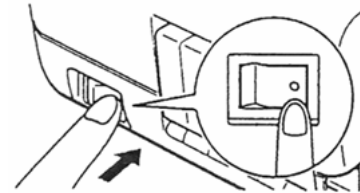

Figure 3-4c
- 3 Power on printer to operate. Power off to remove battery pack for charging (Figure 3-4c).